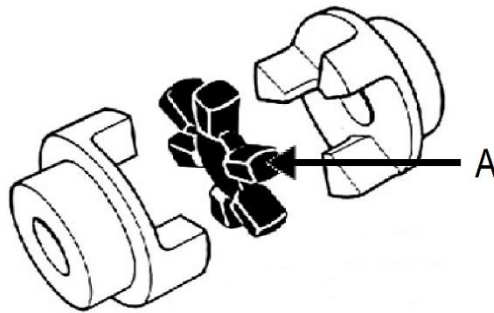

FIGURE 1
2.1 FIGURE 1 (below) shows a diagram of a coupling.
2.1.1 Name the coupling shown in FIGURE 1 (above)